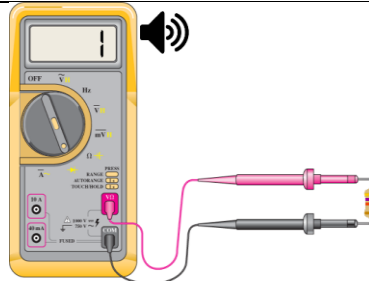

Fig. 1.71 Multimeter knob set measure the resistance value
Step 2. Twist the selector knob to set the multimeter to measure resistance, as shown in Figure 1.71. This may be represented by the Greek letter Omega Ω , which stands for ohms, the unit for measurement of resistance.